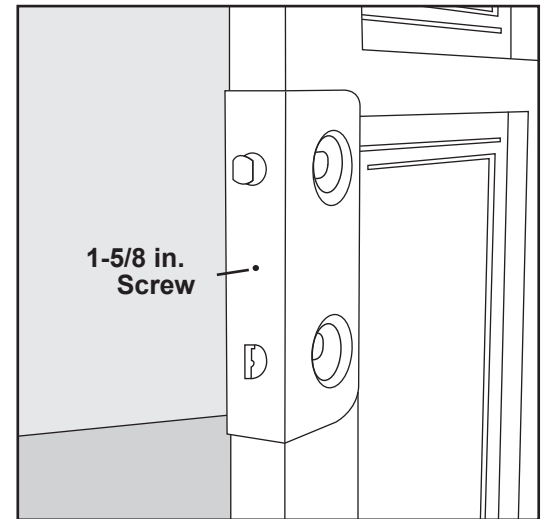

FIG. DS-04
3. Using the supplied 1-5/8 in. screw, secure the Door Shield to the door (FIG. DS-04). This will hold the Door Shield while the locks are installed.